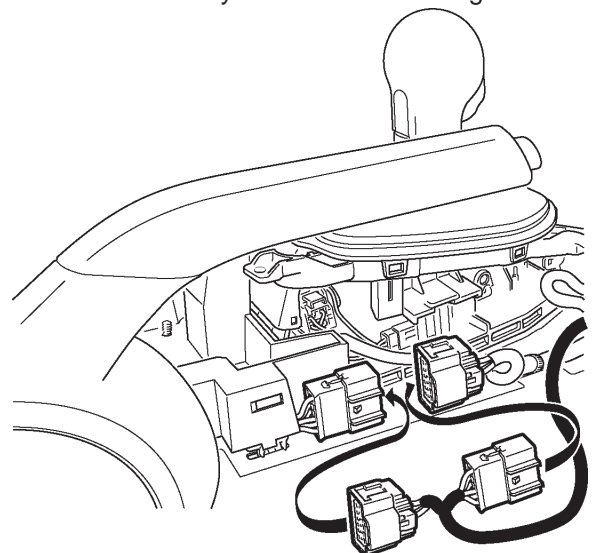

FIGURE 4
9. Connect the gauge patch harness between the 12 pin connector forward of the park brake lever and cable tie to the vehicle harness every 150mm. Refer to figure 4.